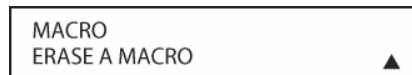

Figure 63
3. At the next menu screen, press the **▼/▲ Navigation Button [oval 16]** until the bottom line in the remote's LCD display reads ERASE A MACRO. Press the **Set Button [oval 18]** to begin the process of erasing a macro. (**Figure 63**)